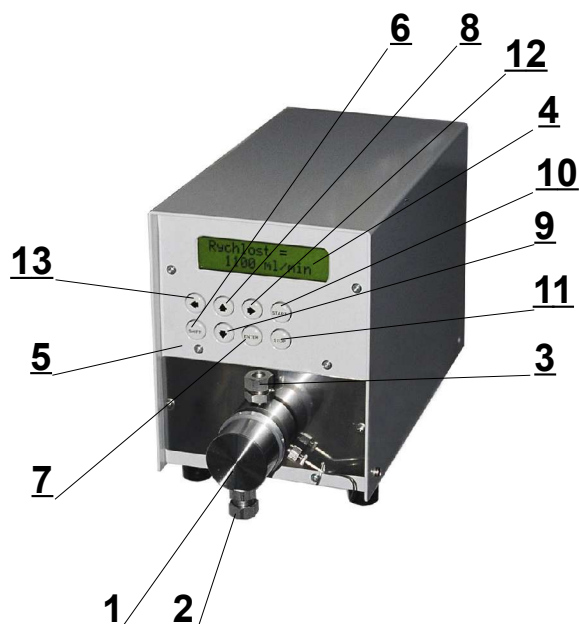

Fig. 1: View on the front part of D-force 1
Detail view on D-force 1.2 pump is on Fig. 1. Pumping head (1) is in bottom part of the front panel. There is an input (2) and output (3) of the liquid in bottom panel part which is covered by a stainless steel panel (7).